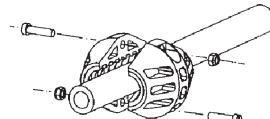

FIG 7.
- Remove the hose stop (Fig. 7).
- Ta bort slangstoppet (Fig. 7).
2. Remove the hose stopper (Fig. 7).
2. Ta bort slangstoppet (Fig. 7).